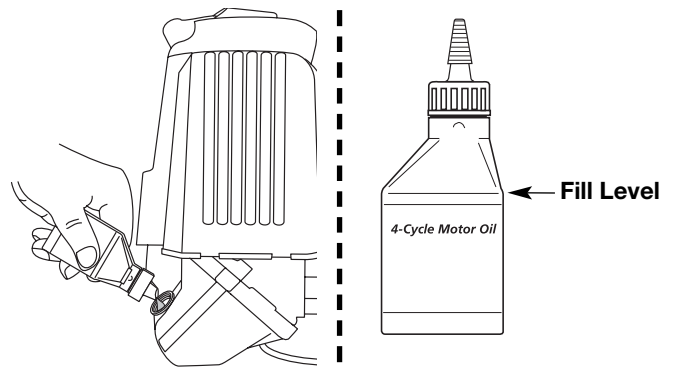

Fig. 55
**NOTE:** Use the bottle and spout saved from initial use to measure the correct amount of oil. The top of the label on the bottle measures approximately 3.4 ounces (100 ml) (Fig. 55). Check the level with the dipstick. If the level is low, add a small amount of oil and recheck. Do not overfill (Fig. 55).